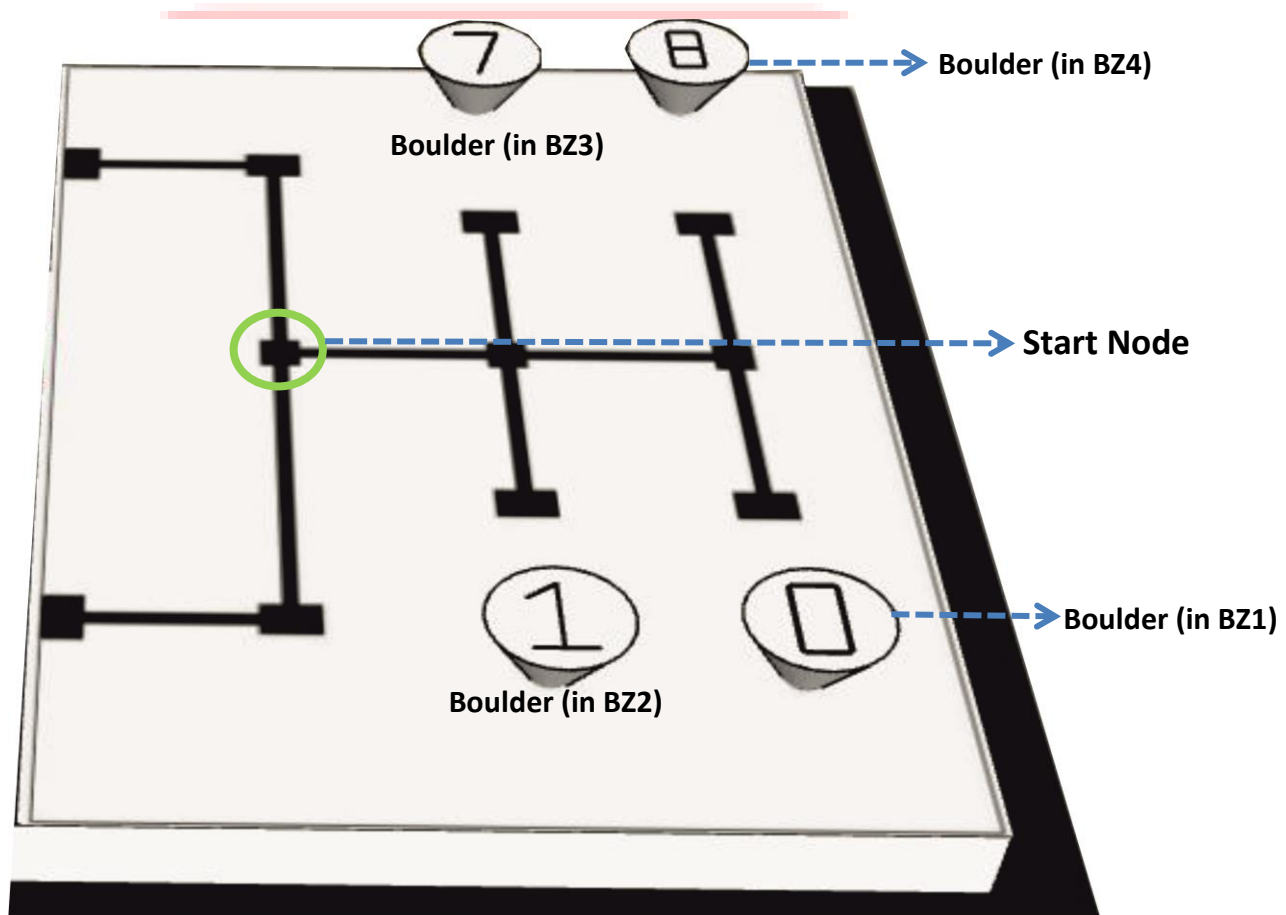

Figure 1: Crater Region
- **Boulder Zones:** these are areas where Boulders are kept. There are four Boulder Zones, marked by circles of 3cms diameter. We use BZ1, BZ2, BZ3 and BZ4 to represent Boulder Zones 1, 2, 3 and 4 respectively as shown in Figure 1.